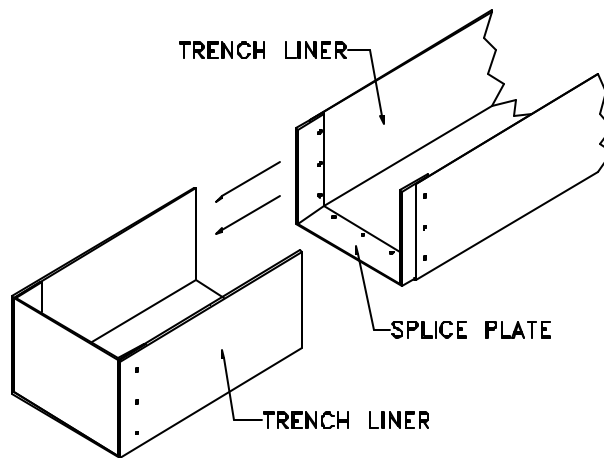

Figure 18
- STEP 5.** Slide the free end of the attached splice plate into the receiving end in the mating section of the trench liner (see Figure 18). Ensure that the mating sections of the trench liner are level, the proper width, and properly aligned. Ensure that the mating sections of the liner abut as closely as possible with one another.